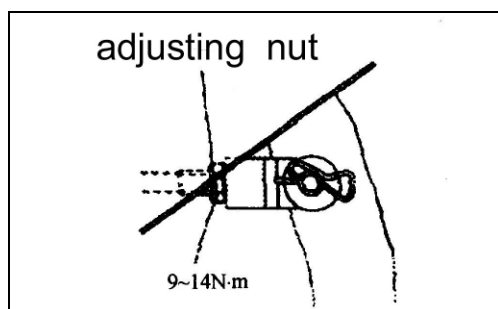

Fig.11-128
- (3)If the height of the clutch pedal is outside the standard value ,loosen the adjusting nut to adjust the pedal height to the standard value as Fig.11-128.